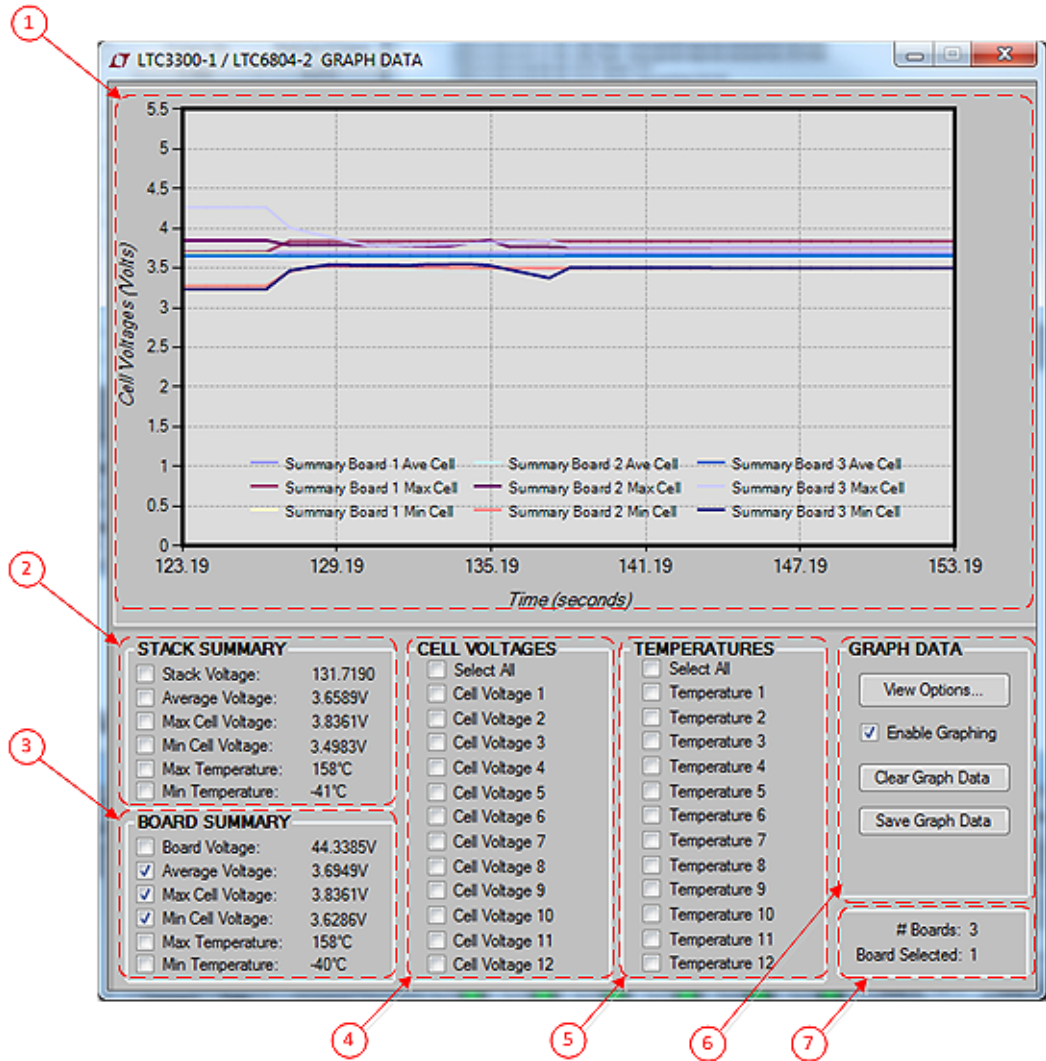

Figure 33. Graph View Window
5. GRAPH VIEW WINDOW – FIGURE 33